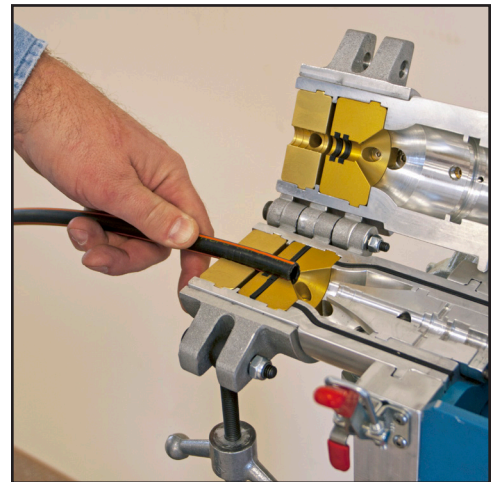

Figure 6. Install Duct
5. Install the duct. (See figure 6)